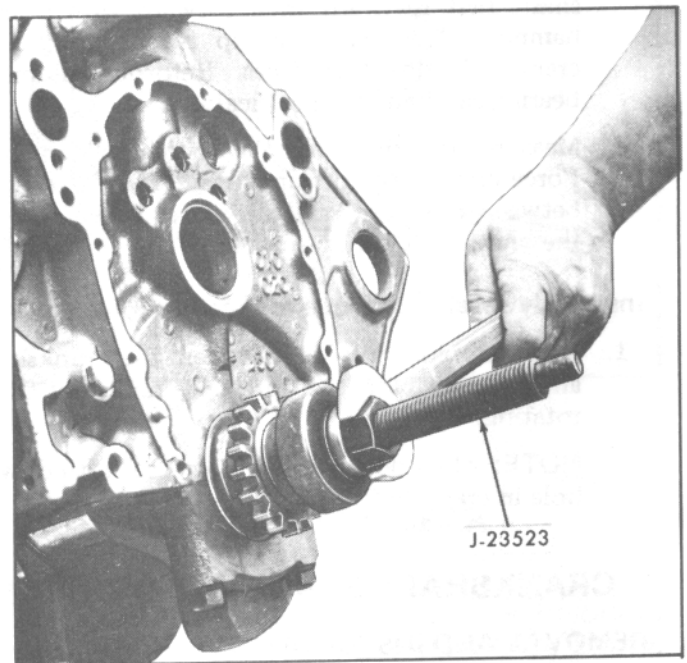

Fig. 59. Installing Crankshaft Sprocket
2. For installing crankshaft sprocket or gear use tool J-23523 (Fig. 59).